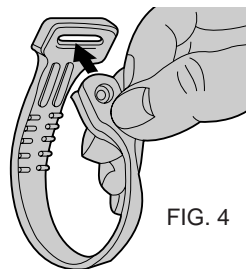

FIG. 4
1. Push double-hole end of holder through the slot in other end of holder (Figure 4.)